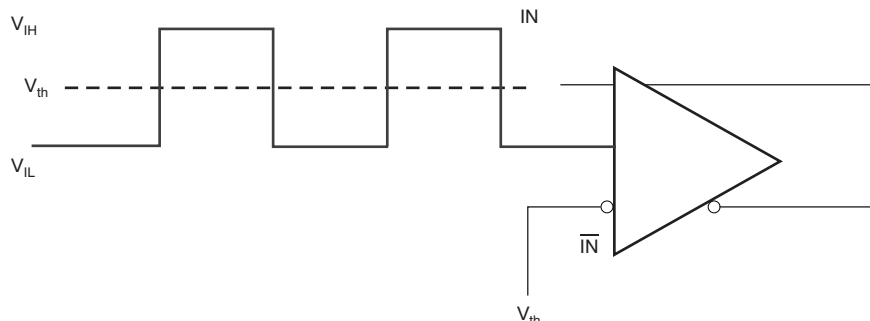
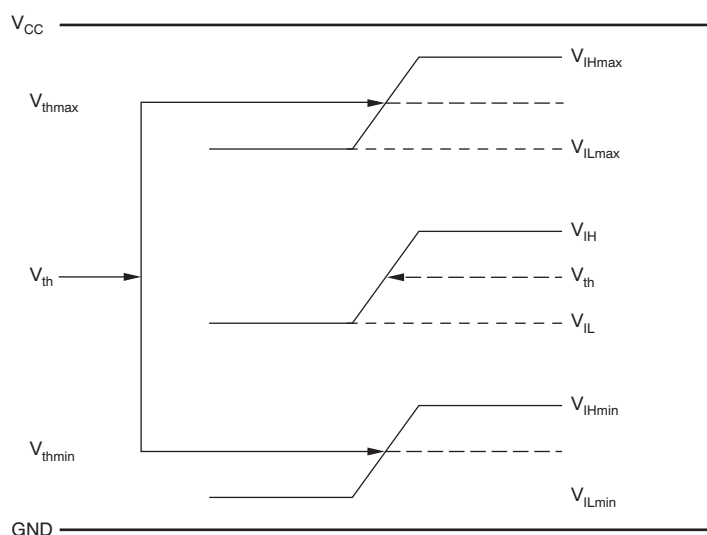

Figure 3. DC-Coupled LVCMOS Input During Device Test
Figure 4. V_{th} Variation Over LVCMOS Levels
(1) Figure 3 and Figure 4 show DC test setup.**6.6 Electrical Characteristics: Differential Input**at $V_{CC} = 2.375\text{ V to }3.6\text{ V}$ and $T_A = -40^\circ\text{C to }85^\circ\text{C}$ and $T_{PCB} \leq 105^\circ\text{C}$ (unless otherwise noted)⁽¹⁾
This section describes the function of each block for the CDCLVP1102. Figure 3 through Figure 9 illustrate how the device should be setup for a variety of test configurations.